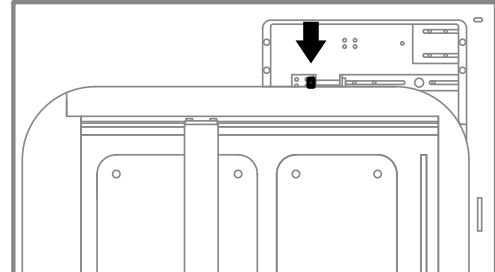

Fig. 13.60 Screw the marked bolt with a torque wrench.
10. Screw the marked bolt with a torque wrench (fig. 13.60). Tighten the cord for a value of 21 Ncm.